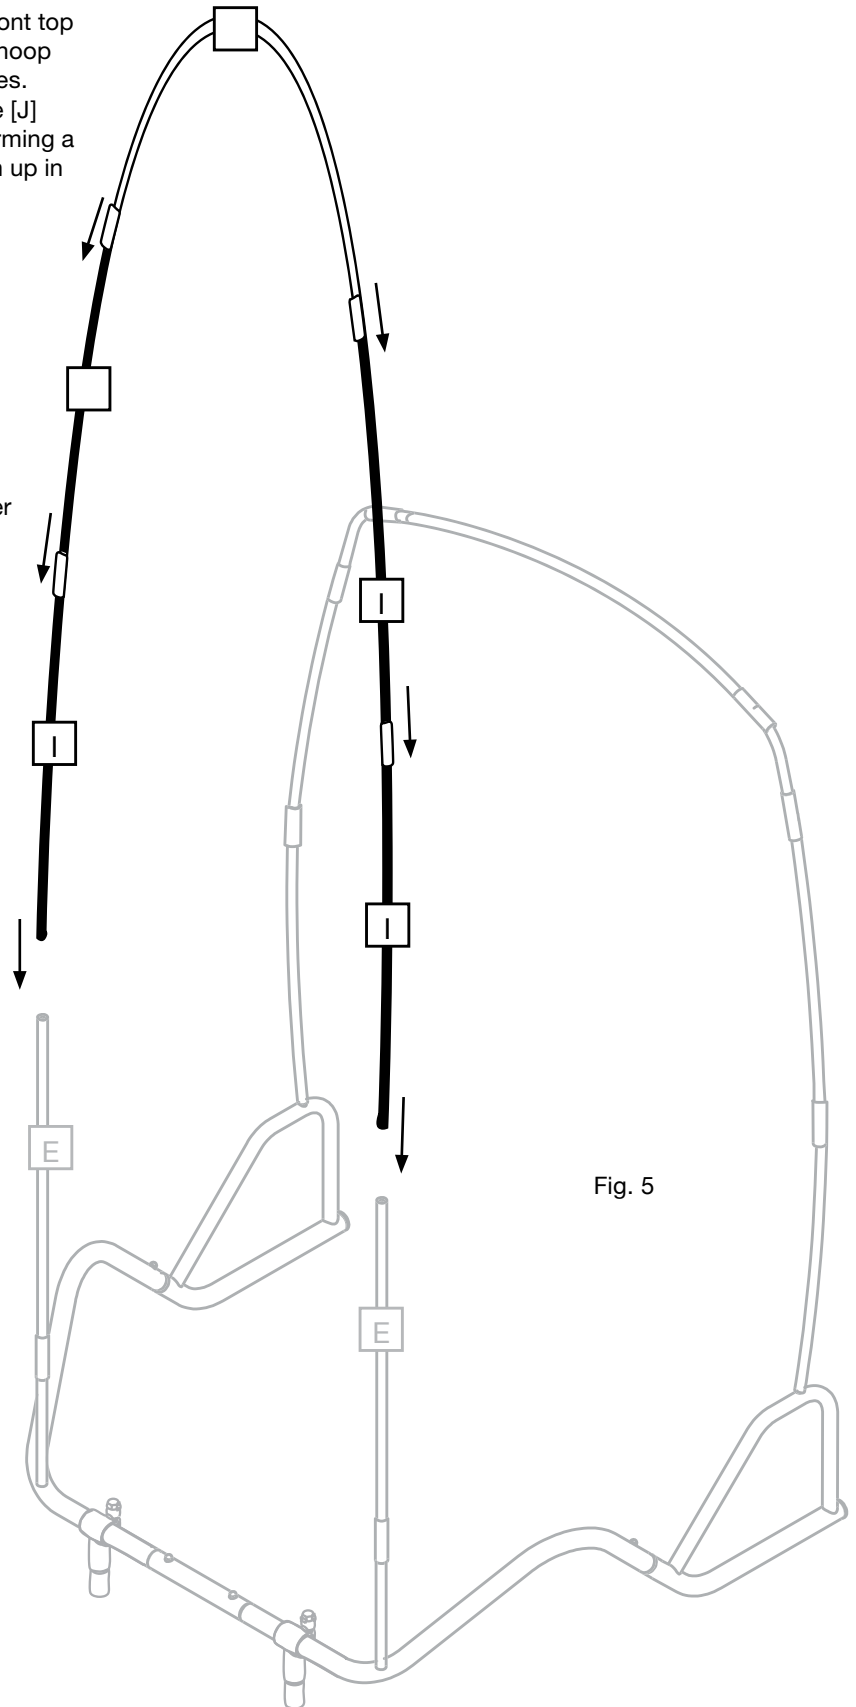

Fig. 5
INSTALL THE FRONT HOOP POLES (FIG. 5)
14. Insert the front hoop side poles [I] first into each front top poles [E] on the frame. Insert another pair of front hoop side poles [I] into the one installed on the front poles. Finish by carefully inserting the front hoop top pole [J] into both the top most front hoop side poles [I], forming a curve. The curved poles will be standing quite high up in the air. This is normal. (Fig. 5)
20. Find the large elastic strap sewn into the bottom rear corner of the cab fabric shell [Q]. Gently pull the roof down (Fig. 5) and pull the elastic strap down and over the end of both mounting bar ends [C]. (Fig. 8)